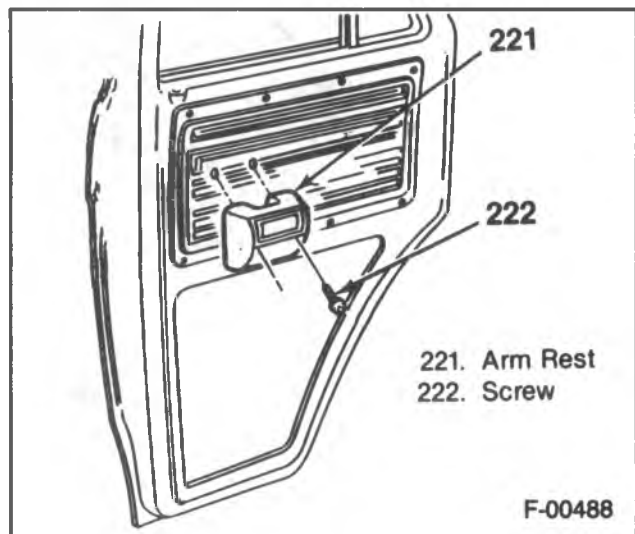

Figure 61 — Arm Rest
6. Arm rest (if equipped) (figure 61).
5. Arm rest (if equipped) (figure 61).